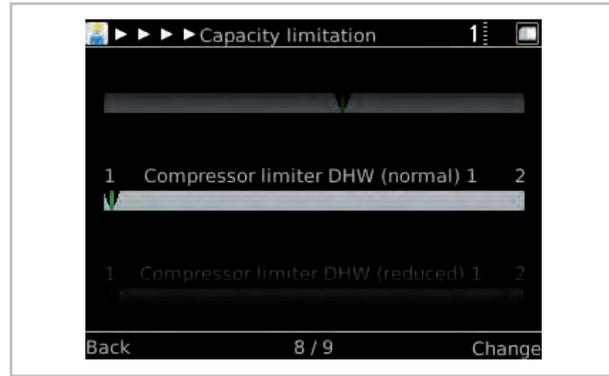

Fig. 99: Compressor restriction (normal) *5)
The output during hot water preparation (HW) in "normal" operation (06:00 - 22:00 hrs) is fully enabled. Enablement is issued by the factory with just one compressor (outdoor unit Fig. 99)